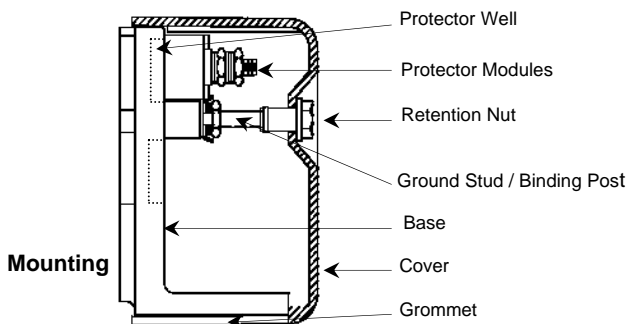

Figure 1
- The plastic base is molded with two shallow rectangular wells, one above and one below the ground stud / binding post (Figure 1) and mounting holes designed to fit existing protector mounting holes when changing station protectors.
- Station protectors mounted side-by-side or end-to-end should be placed so covers can be easily removed. The cover is furnished with a nylon retention nut which secures the cover to the base (Figure 1). The cover is secured or removed by using a 3/8" terminal wrench.